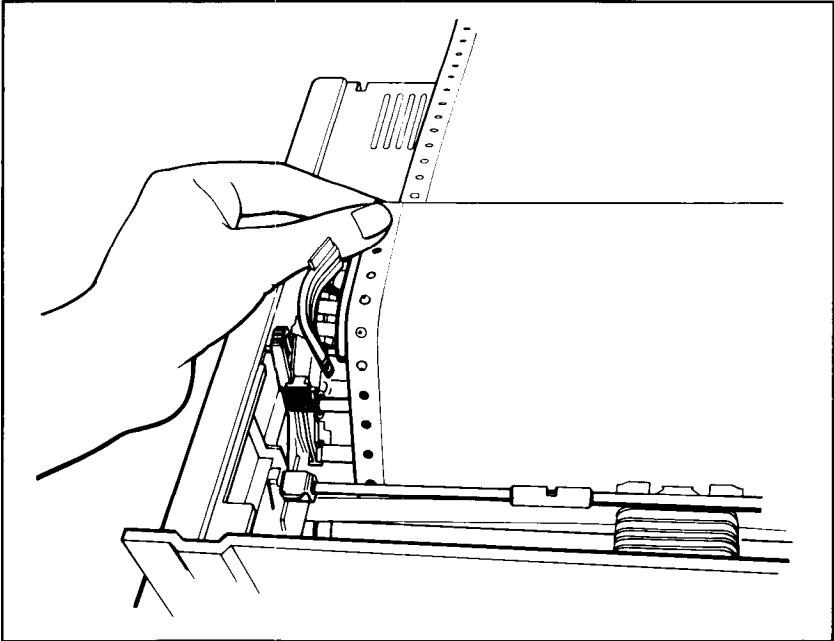

Figure 3-9. Fitting the paper over the pin feeds
9. Pull the paper up until the top is above the pin-feed holders. Fit the holes on the left side of the paper over the pins in the left holder (as shown in Figure 3-9) and close the cover.